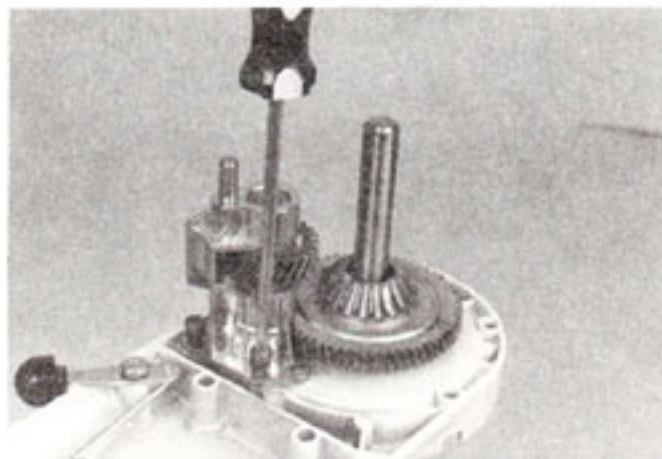

Fig. 53
- C. With a Phillips screwdriver, remove the three #10-24 x 7/16" Phillips fillister head screws and lock washer assemblies and lift out the worm gear bracket, bearing and pin assembly (Fig. 53).